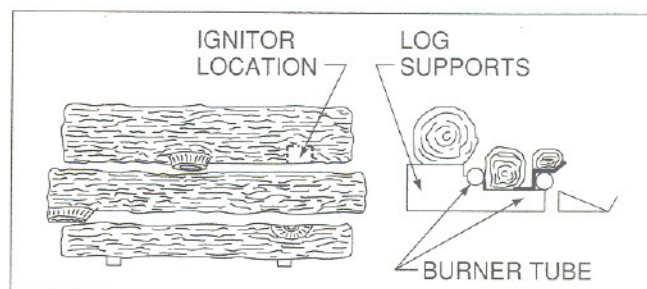

Figure 11
1. Verify log, rock wool and vermiculite placement. They are shipped in a separate box and must be positioned as shown in Figure 11. Do not cover the slot in front of burner tube with vermiculite or you will adversely affect flame appearance.